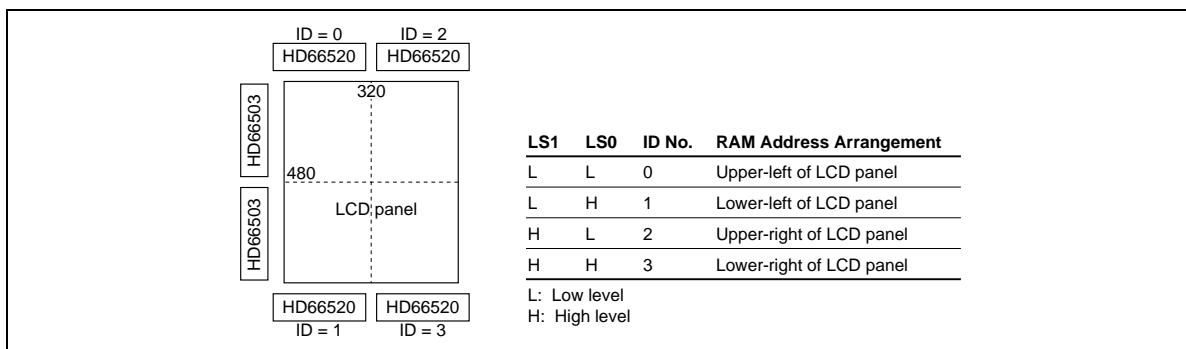

Figure 2 LS Pins and Address Assignment
**LS0 and LS1 (Input):** The LS pins can assign four (0 to 3) ID numbers to four LSIs, thus making it possible to connect a maximum of four HD66520s sharing the same  $\overline{CS}$  pin to the same bus (Figure 2.)